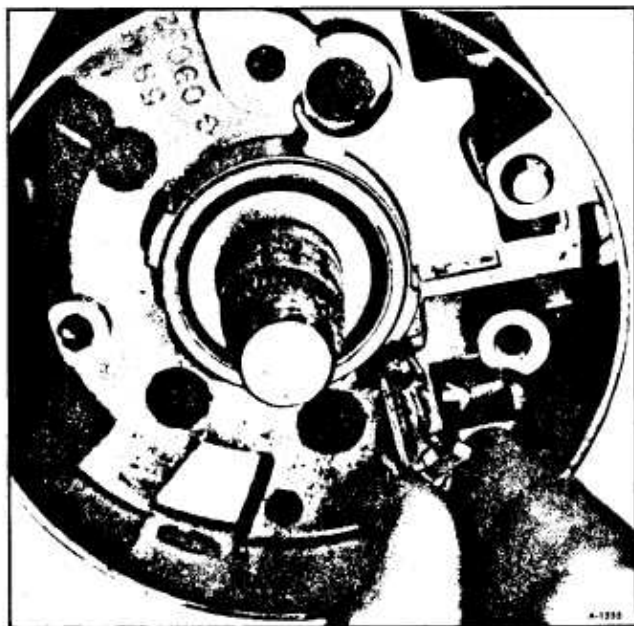

Figure 73-Removing Buzzer Switch
12. The buzzer switch can be pulled straight out of the housing. A flat spring wedges the switch toward the lock cylinder. (This may be done without the removal of the lock cylinder. If the lock cylinder is in the housing, it must be in the "run" position.) (figure 73).
10. Assemble buzzer switch to spring clip with formed end of clip around the lower end of switch and spring bowed away from switch. This should lay on the switch opposite the contacts. Push switch and spring into hole with the internal switch contacts toward the lock cylinder bore. (figure 73).